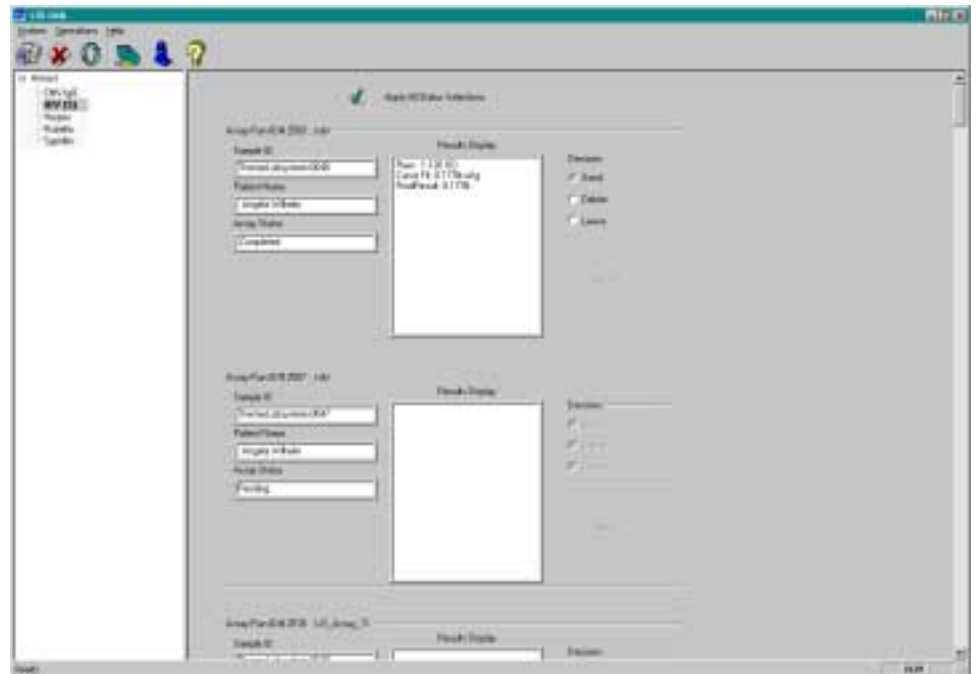

Figure 14 Results Records
2. Click on an assay to display the results records (Figure 14).